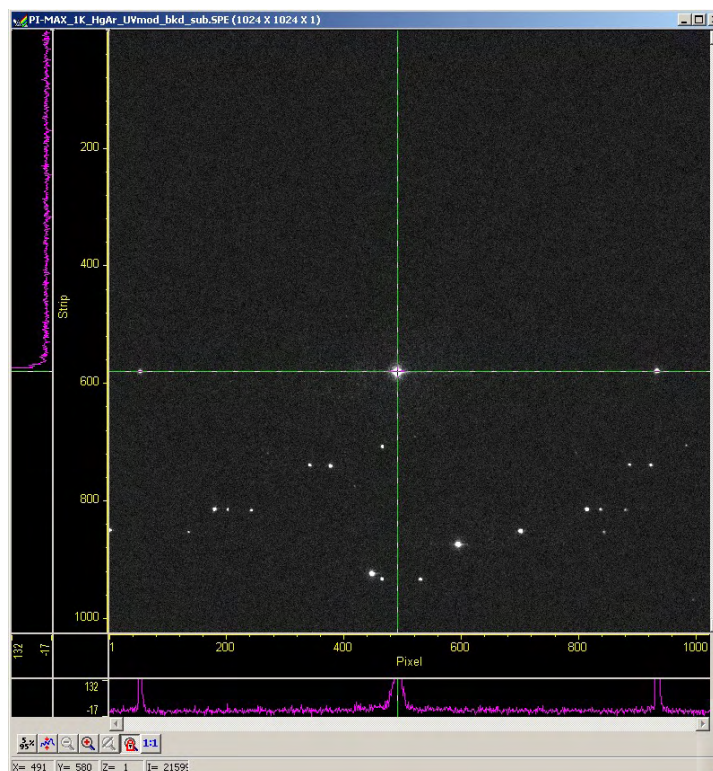

Figure 5. Image showing Rotational Alignment
5. By screwing in the appropriate fine adjust screw, rotate the camera until all the orders are seen on the same row of the CCD as shown in Figure 5. You may have to back off one screw and then screw in the other as you are making the adjustment. When the image is properly aligned, tighten down the mounting bolts to secure the camera in place.